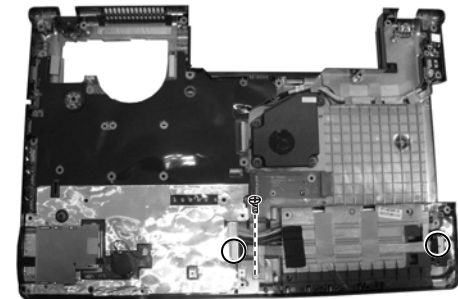

Figure 2-22 Remove the audio jack board
3. Remove one screw and disconnect two cables, then remove the audio jack board. (Figure 2-22)